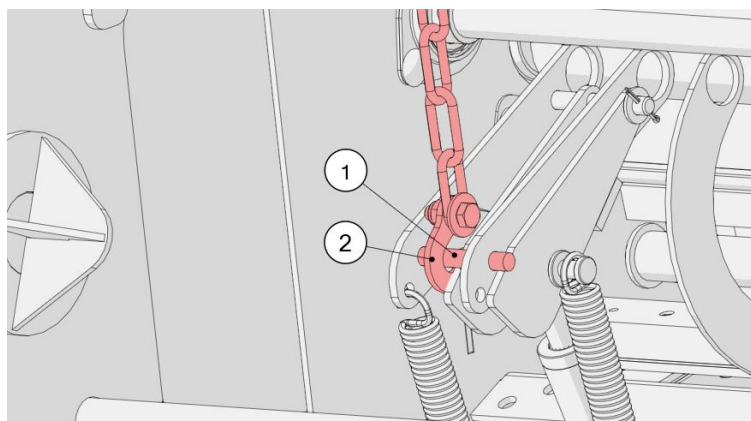

Figure 50. Securing the net cutting knife
To secure the net cutting knife, open the top cover, then install the hook with chain (2) on the pin (1), as shown in Figure 50.